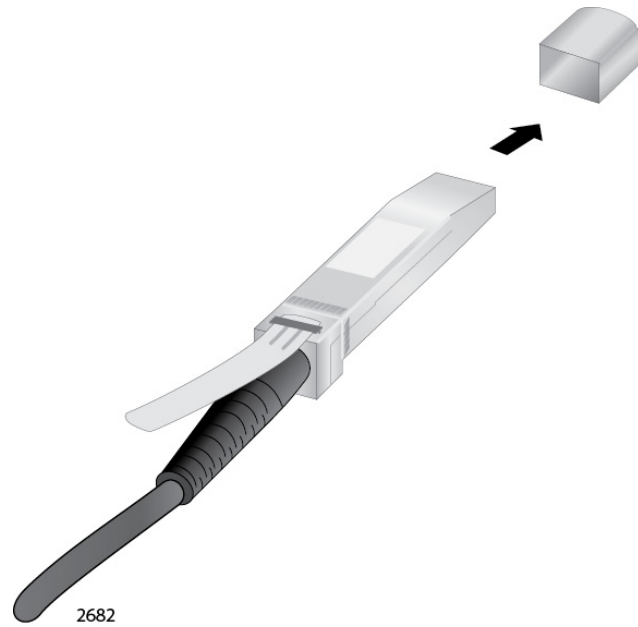

Figure 51. Removing the Dust Cover from the AT-StackXS/1.0 Transceiver
3. Remove the dust cap from one end of the transceiver, as shown in Figure 51 on page 93.